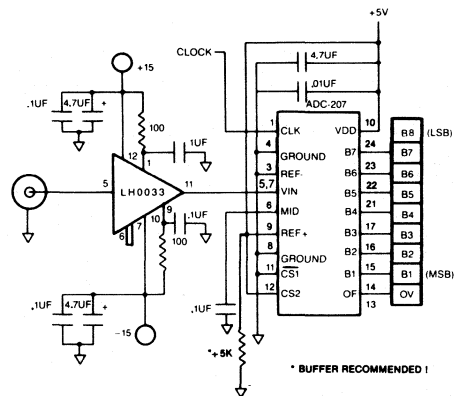
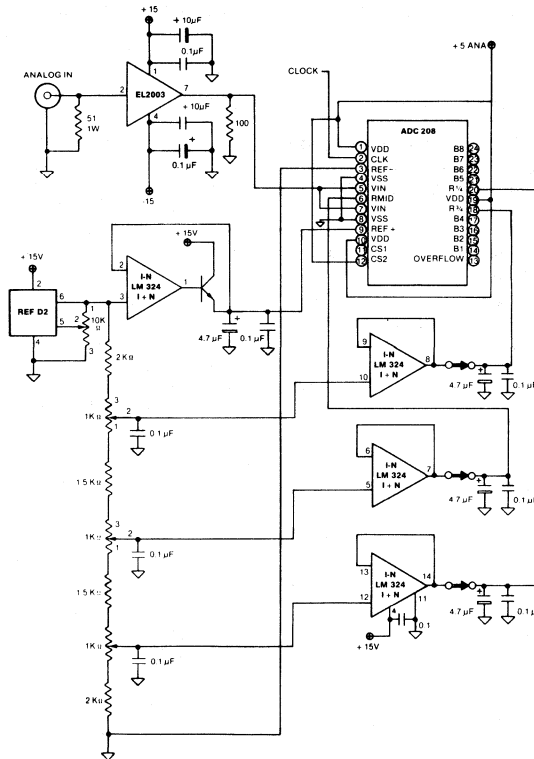

Figure 2. ADC-208 Typical Connections (Adjustment-free)
Figure 3. ADC-208 Typical Connections (with Reference Adjustments)
Figure 3 shows a typical circuit with reference adjustment circuitry. Figure 2 shows a typical circuit where zero, gain and Integral Nonlinearity adjustments are not used. Reference adjust pins not being utilized should be decoupled to ground with a 0.1 μ F ceramic capacitor.
1. Connect the converter appropriately per the typical connection circuits shown in Figure 2 or Figure 3. Then apply an appropriate clock input. The ADC-208's reference input should be held to $\pm 0.1\%$ accuracy or better. Do not use the +5V power supply as a reference without precision regulation and high frequency decoupling capacitors.